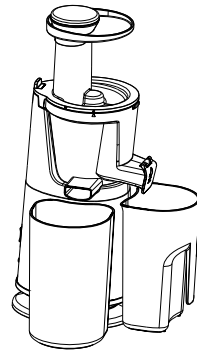

Fig. 5
- Place the juice container under the juice outlet and residue container below the residue outlet (see Fig.5). The slow juicer is now ready to operate.